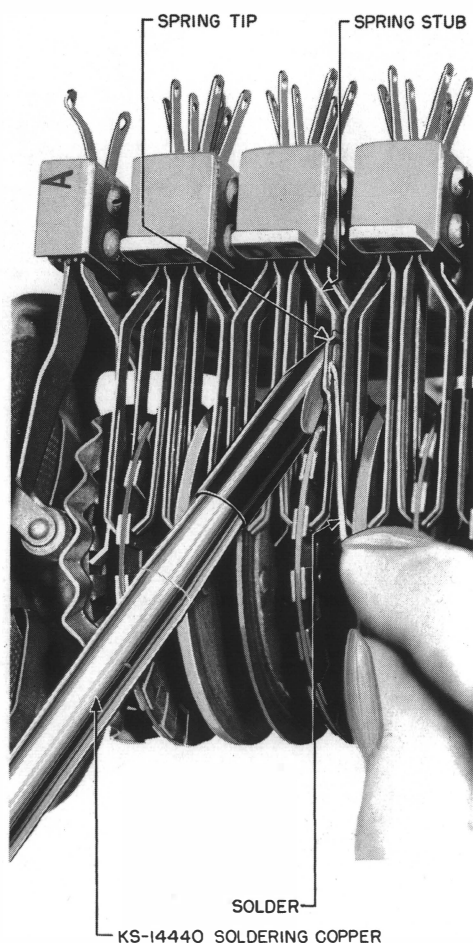

Fig. 3 – Method of Soldering Spring Tips
3.06 Position the new spring tip to meet the applicable requirements covered in Section 030-801-701. Where the tip has been mounted in a position where a crimped spring was previously used (see 1.06), position the tip so that it meets the requirements covered on the circuit requirement table as well as in Section 030-801-701. Solder the spring tip to the spring stub, using the KS-14440 soldering copper and E rosin core solder. Position the solder before heating the parts with the soldering copper as shown in Fig. 3.
3.14 Solder the spring tip to the spring stub using the KS-14440 soldering copper and the E rosin core solder. Insert the solder between the inner and outer springs and position it on the tip as shown in Fig. 3 before heating the parts.
3.21 Position the spring tip to meet the A spring clearance requirement in Section 030-801-701. Solder the spring tip to the spring stub using the KS-14440 soldering copper and E rosin core solder. Position the solder in a manner similar to that shown in Fig. 3 before heating the parts with the soldering copper.